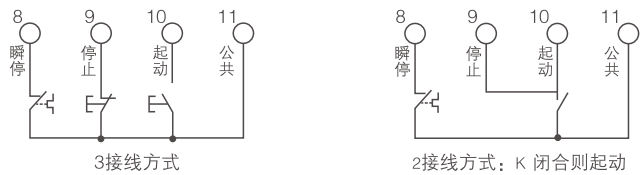

图4.2
◇ Terminal ⑨、⑩are input terminals for external stop and start buttons. Wiring method is shown in Figure 4.2. Two-line mode when. ⑨、⑩Short connection.